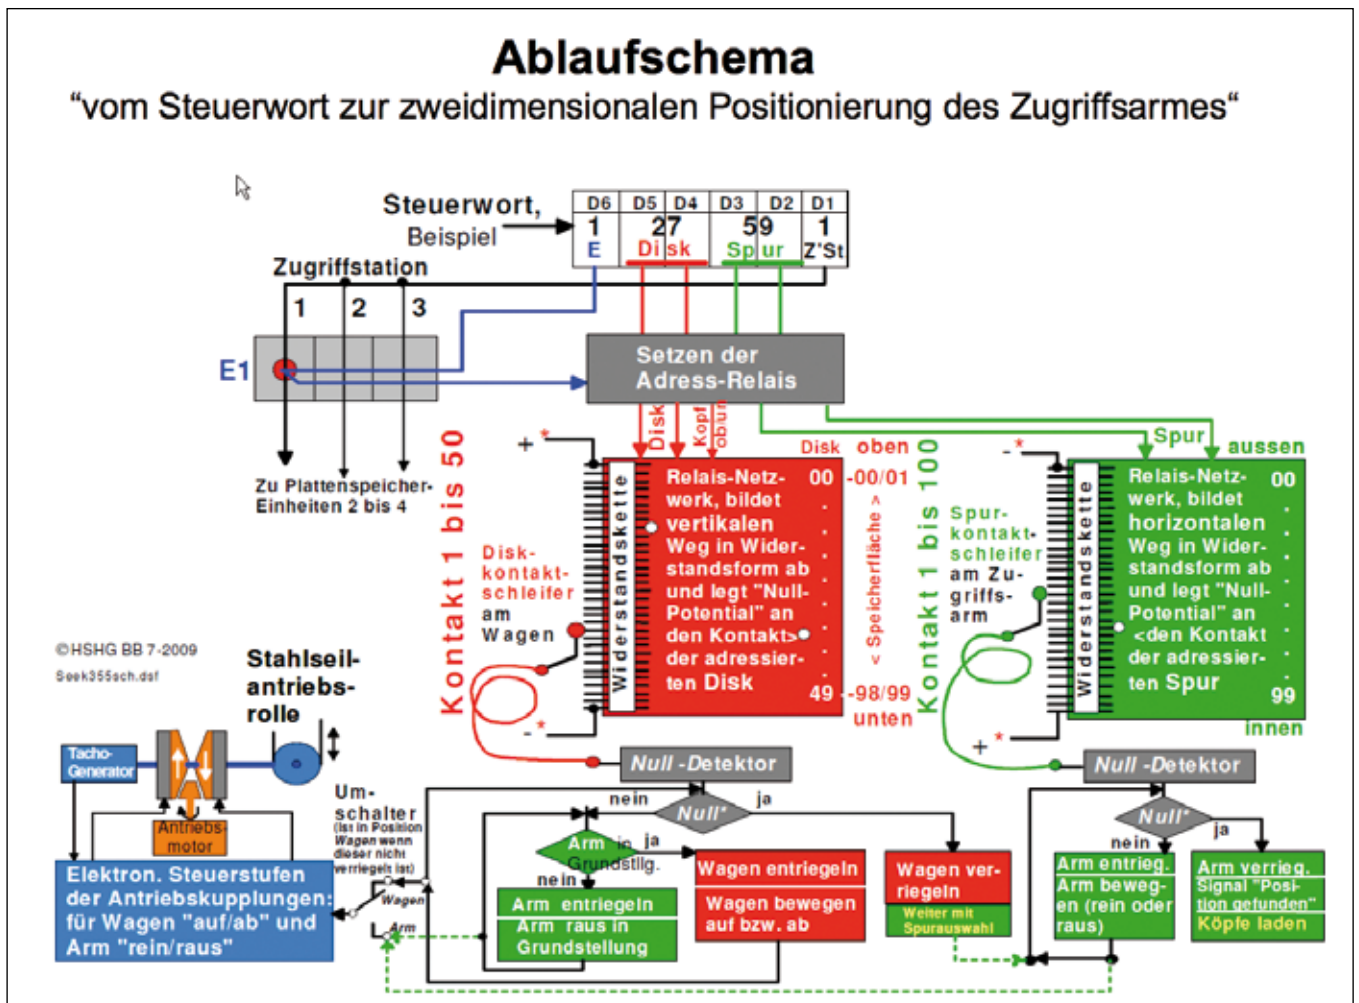

Fig. 2
Based on the previous explanation, we consider the drawing "flow chart" (Fig. 2). At the bottom left we find the cable drive pulley, the speedometer generator and, as a "black box", the electronic control stages for both drive coupling halves. The control voltage entering the box can be positive or negative. If it is positive, the carriage is moved in one direction to the desired plate. If it is negative, the carriage is moved in the other direction to the desired plate ("up / down"). This also applies to the direction of movement of the access arm ("in / out").
For the implementation of the control principle in movement paths, further elements are required, which Heinz Graichen and I have summarized from extensive circuit diagrams into a simplified diagram (see Fig. 2 "Flow diagram"). The essentials are an address relay set, two resistance chains, each with a relay contact chain, a zero detector and a switching logic that controls the processes, including the drive clutch control stages.
The entire magnetic element is guided through a conical hole in the access arm frame (see figure "350/355 suspension technology" in light blue). A hairpin spring engages in both holes of the head guide pins (F) and presses the head against the cover plate until its guide pins stop there. This state is known as "unloading the head". In order to prepare for reading or writing, the control electronics generate the "Head Load" signal (see Fig. 2 "Flow diagram" at the bottom right). This excites the "head load solenoid". This allows compressed air (DL) both to escape from the six 0.1 mm hexagonal holes in the sliding surface of the element and to act simultaneously on three cylinders with pistons arranged at a 120 degree angle. This causes the magnetic element to move downwards.